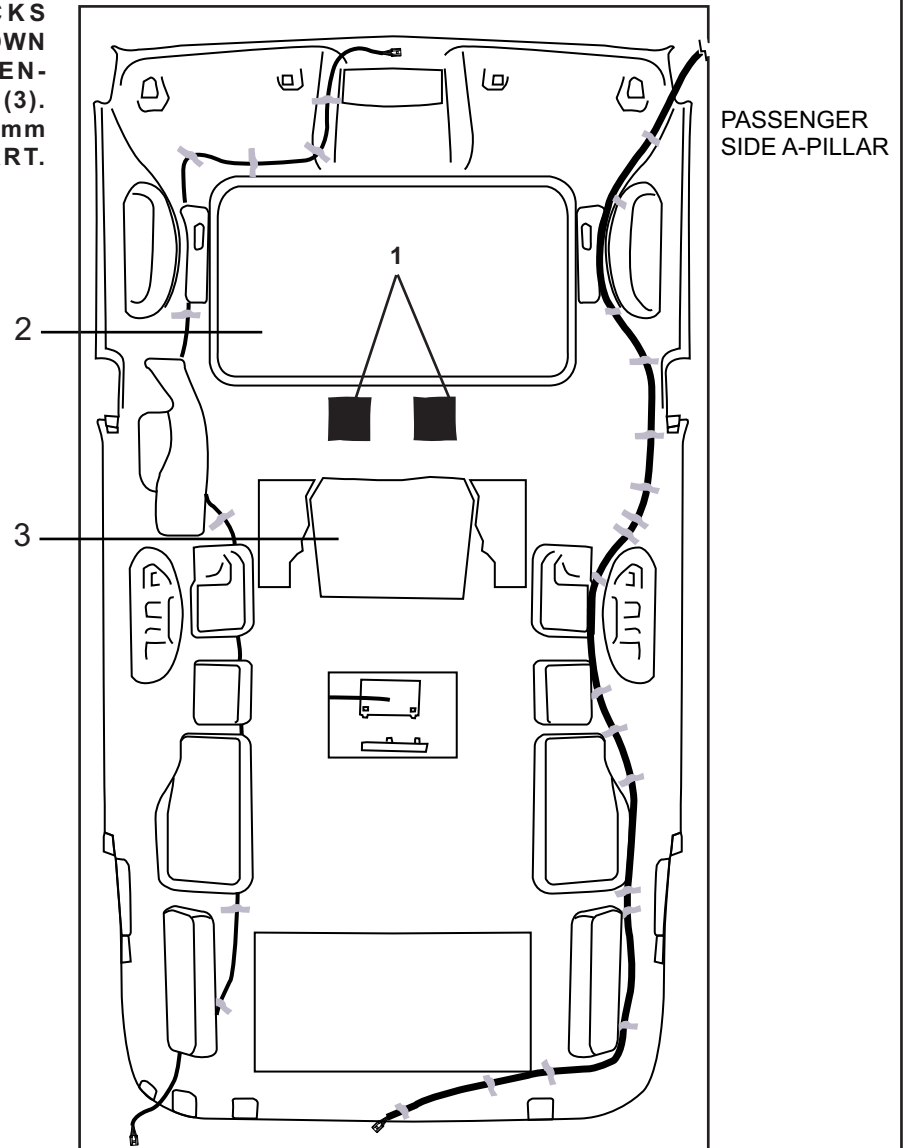

FIGURE 57
- 1.) INSTALL TWO FOAM BLOCKS (1) ON THE HEADLINER AS SHOWN BETWEEN THE SUNROOF OPENING (2) AND THE DVD CUTOUT (3). FOAM BLOCKS SHOULD BE 60 mm (APPROXIMATELY 2-1/4") APART. (SEE FIGURE 57)